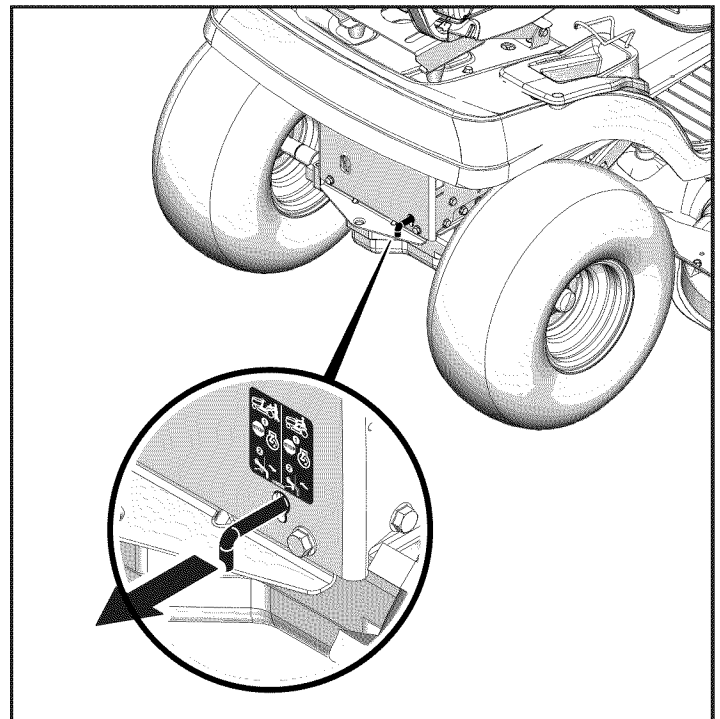

Figure 8
2. Pull out the lever approximately 2-3/8" (6 cm) to release the transmission (see Figure 8).